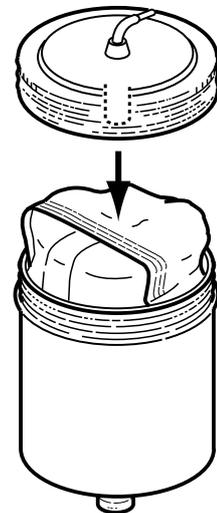

Figure 3.
- * Push the pack into the case until the top of the pack sinks under the brim. Thrust the pipe protruding from the back of the lid onto the top center, not on the seam, and tighten the lid securely (Figure 3).
- (5) Connect the tubing to the lid.
- (1) Mount an OX100 Series sensor to the needle valve assembly by inserting 70 to 80 mm of the sensor and screwing down the locknut firmly with fingers. The locknut should be finger tight only and do not use a wrench for tightening.
- (2) Turn the pressure regulating handle of the needle valve assembly's regulator counterclockwise completely.
- (3) Turn the handle of the needle valve clockwise until it can no longer turn so that the needle tip pokes into the gas cylinder (See Figure 3).